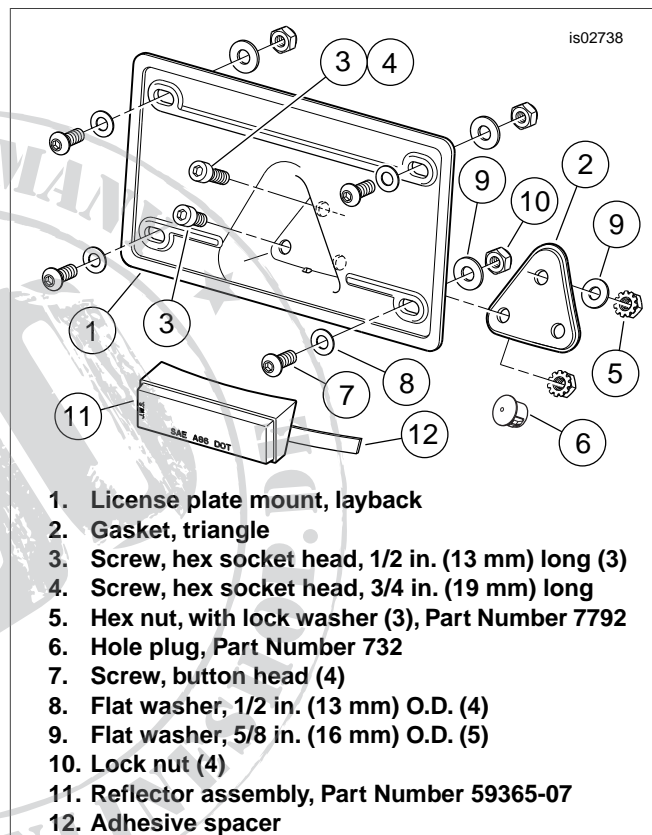

Figure 1. Layback License Plate Mount Components
See Figure 1.
2. See Figure 1. Fasten the new license-plate mount to the rear fender:
- a. **For 2002 and later Dyna, AND 2004 and later Sportster models:** Insert the hole plug (6) into the hole in the fender to the left of the two lower license-plate mounting holes.
- b. **For all models EXCEPT Sportster:** Fasten the triangle gasket (2) and license-plate mount (1) to the fender using three **1/2-in. long** screws (3) and hex nuts with lock washers (5) from the kit. Tighten securely.
- c. **For Sportster models only:** Fasten the triangle gasket (2) and license-plate mount (1) to the fender using the **3/4-in. long** screw (4), a **large diameter** flat washer (9), and a hex nut with lock washer (5) from the kit **in the TOP hole**. Do not fully tighten.